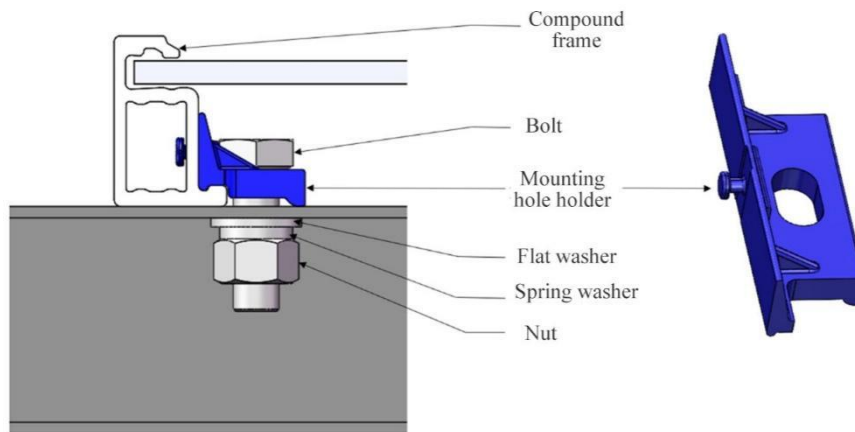

Figure 19 Installation of composite frame Module bolts
- ◇ When installing composite frame Module bolts, use special mounting holes (Figure 19) for the composite frame. Ensure that each Module has at least four bolts. The different mounting positions of the bolts affect the maximum load capacity of the Module (Table 6).